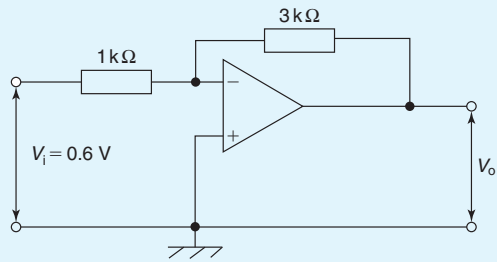

Figure 19.26
4. The output voltage, V_o , in the amplifier shown in Fig. 19.26 is:
5. The $3 \text{ k}\Omega$ resistor in Fig. 19.26 is replaced by one of value $0.1 \text{ M}\Omega$. If the op amp has an input bias current of 80 nA , the output offset voltage is: